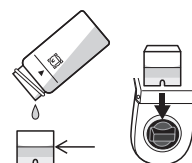

Fig.6
8. Before 5 minutes pass, pour 1.5 mL from the vial into the cell. Insert the cell into the cell box. (Fig.6)